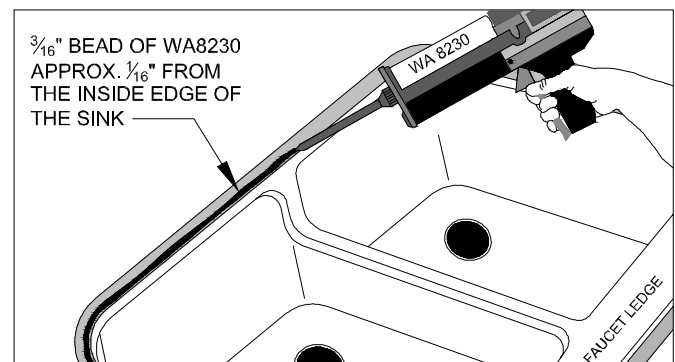

Figure 21B
- Apply the WA8230 - LS Sink Seam Adhesive to the HD sink flange. (FIG. 21B)